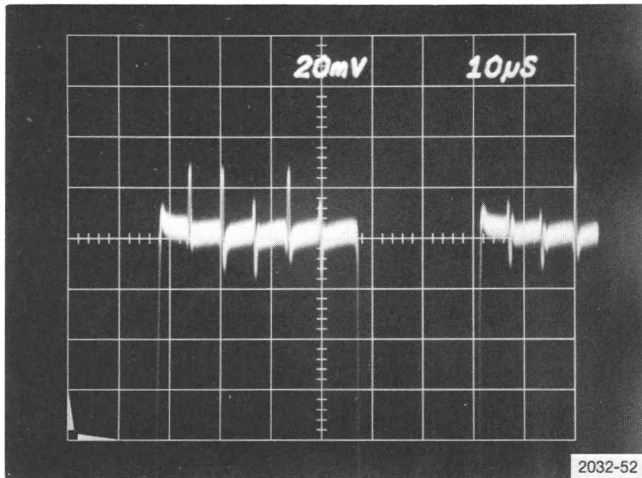
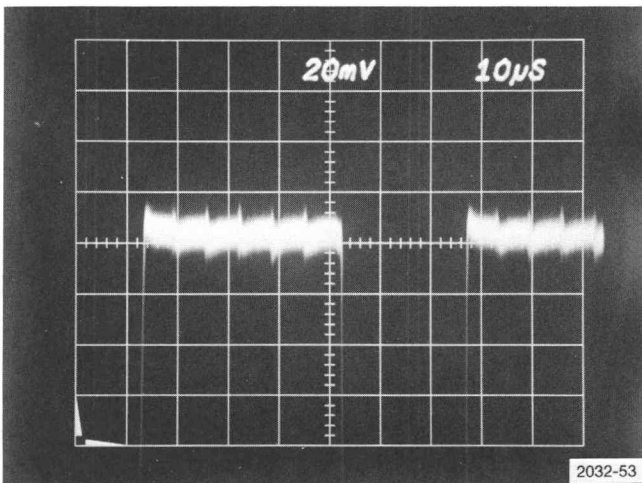

Fig. 4-22. 1420—Differential Gain check.
Fig. 4-23. 1421, 1422—Differential Gain check.
e. Check—Tilt on the demodulated subcarrier signal should not exceed 1% of the value noted in part c. See Fig. 4-22 or Fig. 4-23. (Tilt caused by changing luminance levels can be checked by switching staircase steps on and off.)